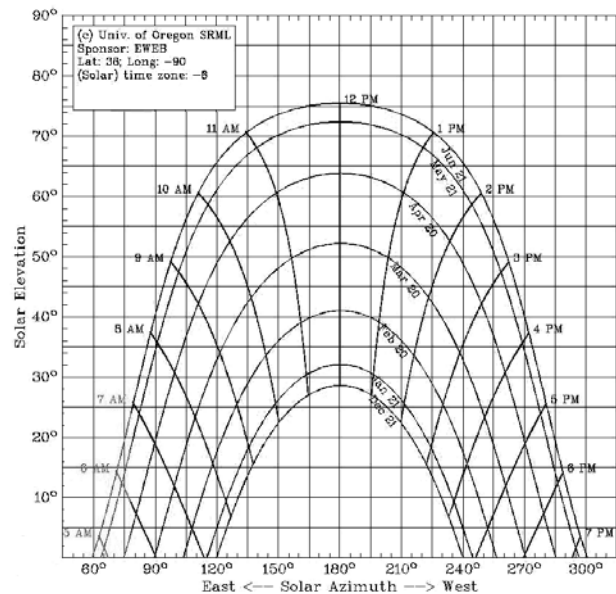
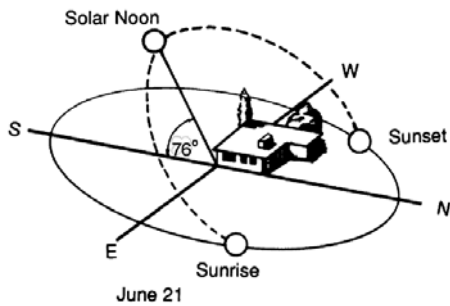

Figure 1. A sunchart for 38 degrees north latitude.
Figure 2. Angle of summer sun is 76 degrees from horizontal at solar noon for 38 degree north latitude.
2. A 9.5-inch stick at the end of a yardstick forms a 15-degree angle to your eye when the other end of the stick is held at your forehead. This can be used to plot the approximate southern skyline on a sunchart (Figure 1) using elevation and azimuth angles from the direction of true south and true level as observed from the center and bottom of the solar aperture.
1. The midday sun is low in the southern sky during winter months and high in the southern sky during summer months (Figures 2 and 3). Plot the southern horizon, trees, and buildings on a sunchart (Figure 1) to determine sunlight availability.